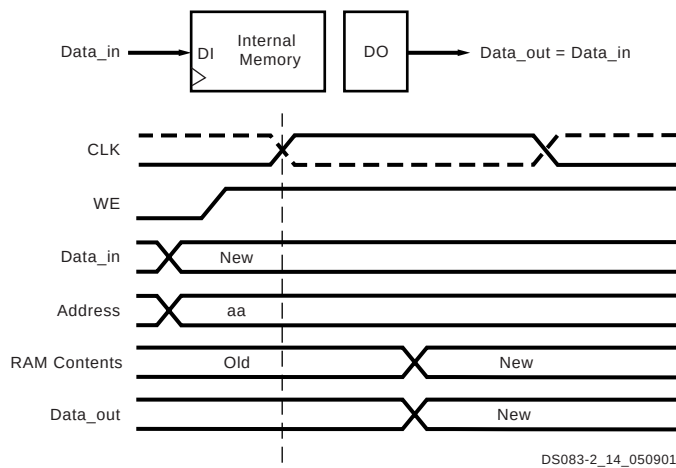

Figure 51: WRITE_FIRST Mode
The WRITE_FIRST option is a transparent mode. The same clock edge that writes the data input (DI) into the memory also transfers DI into the output registers DO, as shown in Figure 51.